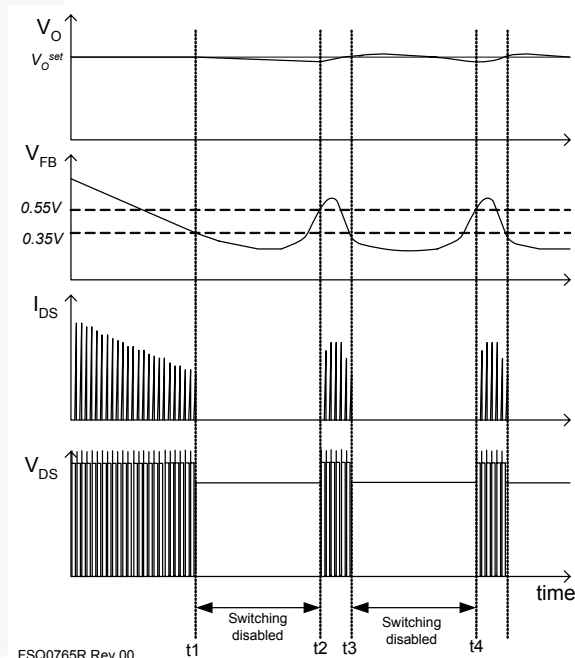

Figure 33. Waveforms of Burst Operation
**6. Burst Operation:** To minimize power dissipation in standby mode, the FPS enters burst-mode operation. As the load decreases, the feedback voltage decreases. As shown in Figure 33, the device automatically enters burst-mode when the feedback voltage drops below  $V_{BURL}$  (350mV). At this point, switching stops and the output voltages start to drop at a rate dependent on standby current load. This causes the feedback voltage to rise. Once it passes  $V_{BURH}$  (550mV), switching resumes. The feedback voltage then falls and the process repeats. Burst-mode operation alternately enables and disables switching of the power SenseFET, thereby reducing switching loss in standby mode.